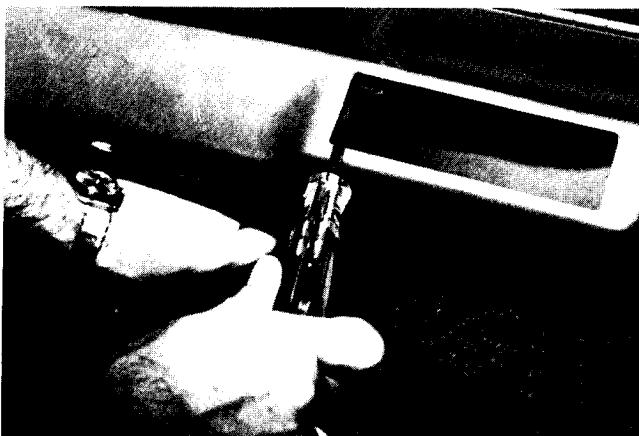

FIGURE 24
31. Before reinstalling trim pieces and bezels into duct assembly, place the duct assembly in position under the dash and, using an awl, mark the location of the "U" nut on the glovebox where marked (Figure 24).